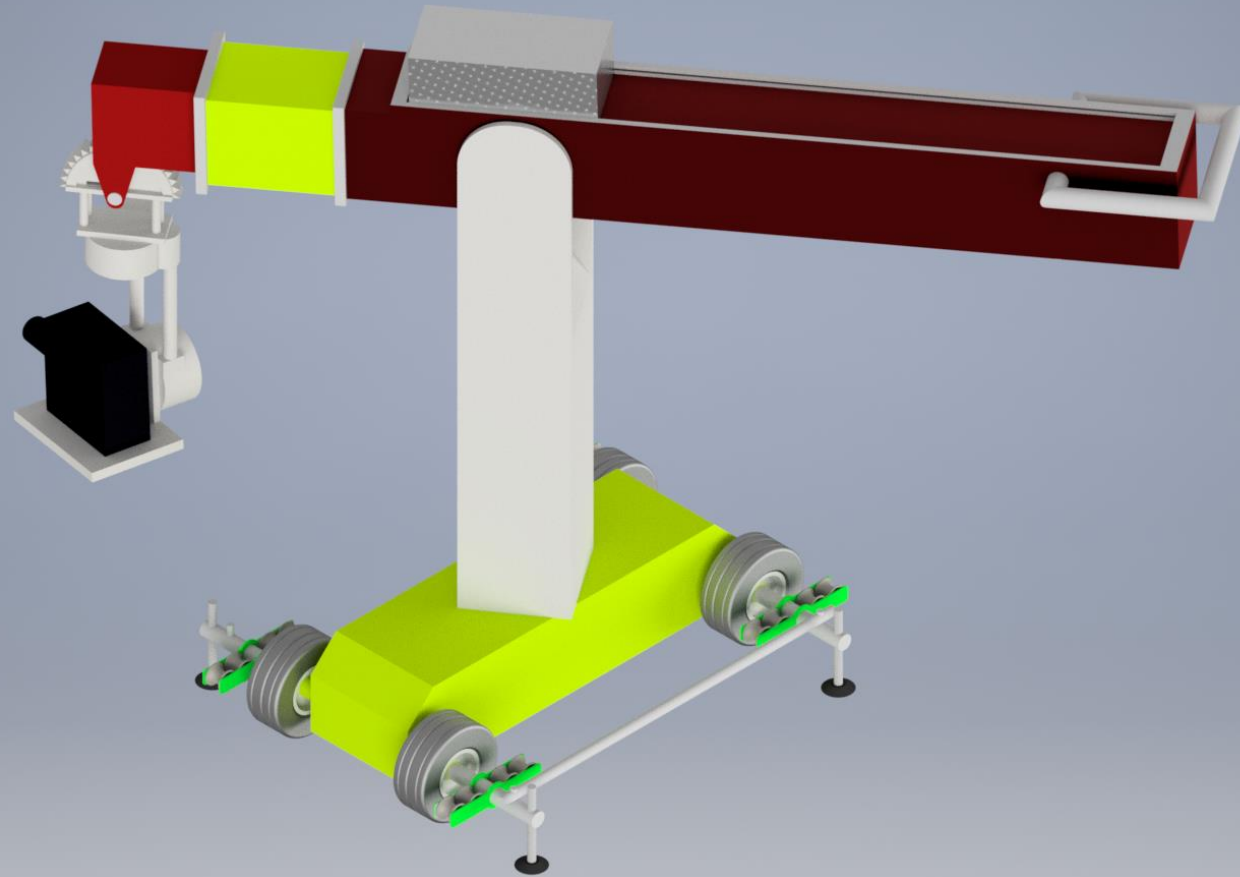

Fig.6
- ▶ Fig6. (a,b,c,d) – 3D model. Developed by author in Inventor 2016. a,b,c- model on railway track, d – on fixed leveling jacks.